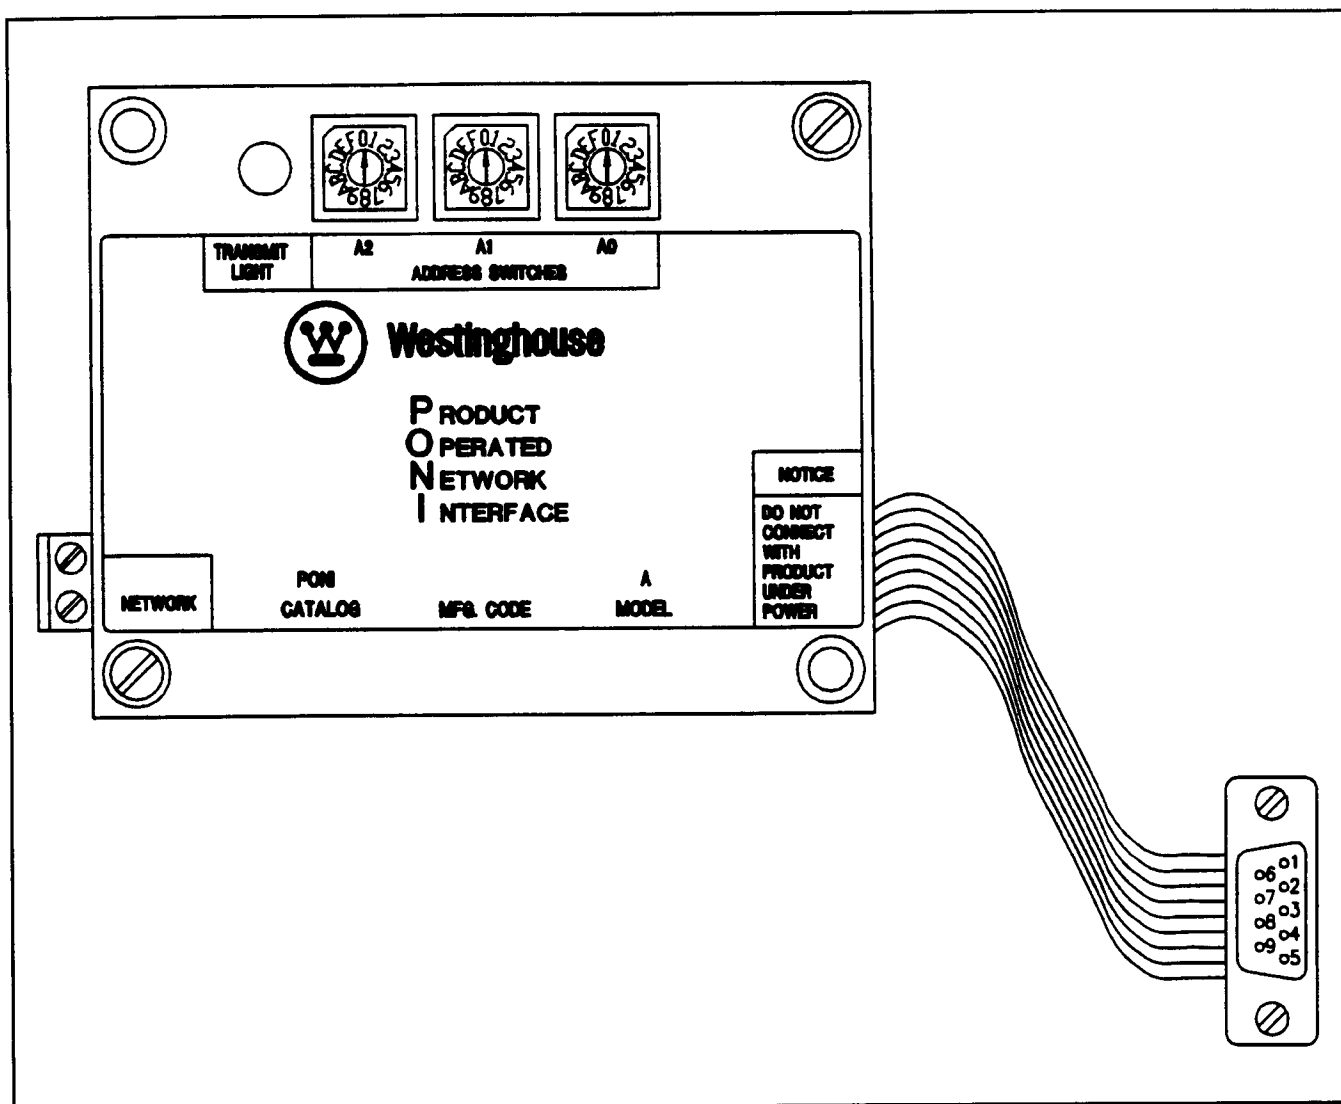

Figure 2.4 — PONI Communications Card Option
**2.1.3.2 Communications Option** — The Product Operated Network Interface (PONI) is a small printed circuit communications device that is mounted onto the back of the IQ-1000 II and connects the IQ-1000 II to the IMPACC local area network (see Table 1.A). The PONI is a separately purchased option (see Figure 2.4).